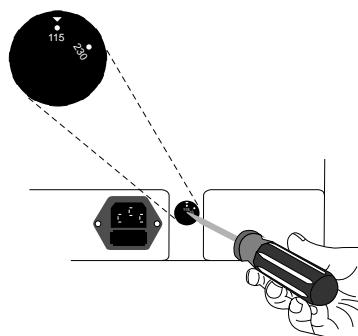

Figure 19
4. See Figure 19. Make sure the voltage selector switch on the back of the unit is set correctly.